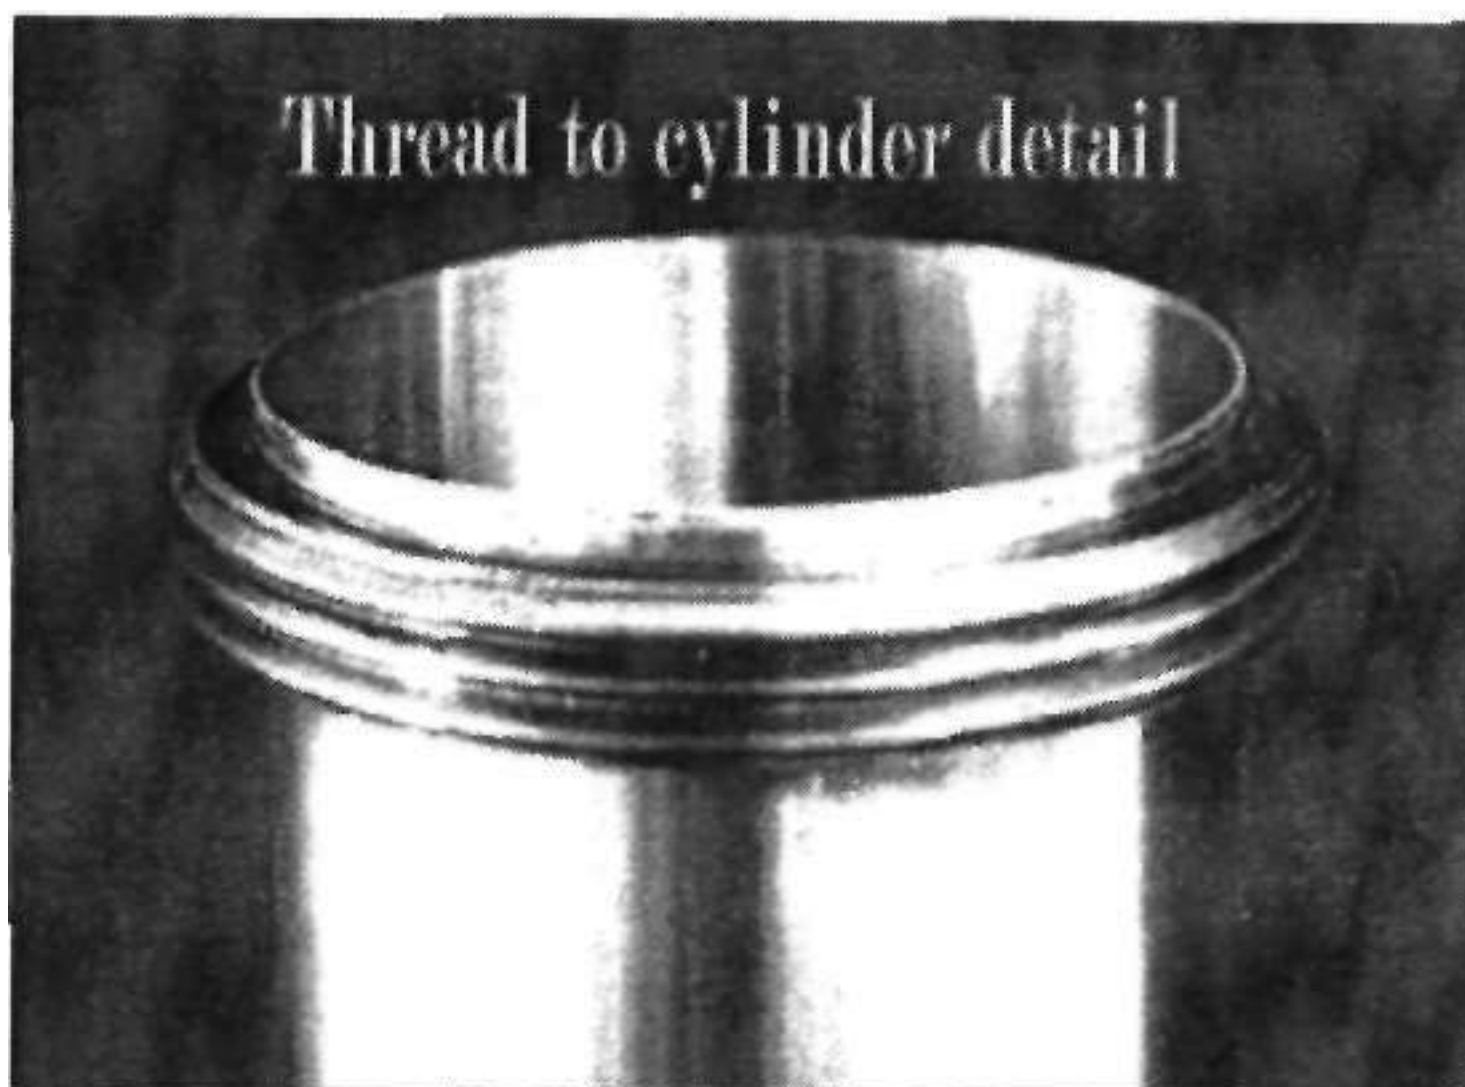

FIG 19. Cell - 5 cylinder. A view of the press fitted thread. Notice the position. The outer cylinder must be a metal to metal fit with the base can
- > Press fit your modified thread to one end of the 5 inch cylinder, making sure that the 5 inch cylinder protrudes slightly below this male thread, so there is metal to metal contact with the lower cap when it is assembled and the 5 inch nut is done up . This step must also allow reasonable compression of the O-ring. (see **FIG 19.**)